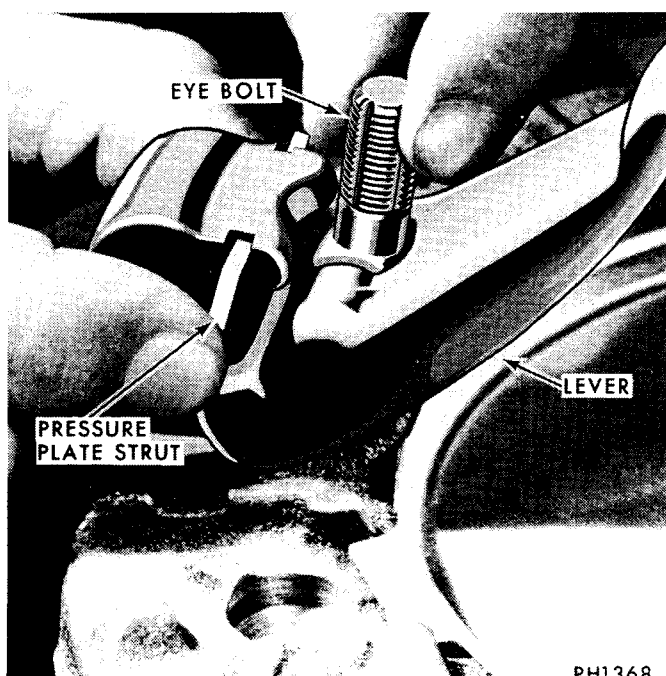

Fig. 3—Pressure Plate
(1) Install plain thrust washer and compression nut over center screw and compress springs with cover.
(2) Remove clutch release lever eyebolt nuts on strap drive type cover and pressure plate assemblies.
(3) Remove cap screws that hold driving straps to pressure plate, then release pressure to prevent springs from flying out. When tension is relieved, lift off cover.
(4) To remove release levers, grasp lever and eyebolt between thumb and finger so that flat side of lever and upper end of eyebolt are as close together as possible (Fig. 3).
(5) Be sure to keep eyebolt pin seated in lever socket. Strut can then be lifted over ridge on end of lever, making it possible to lift lever and eyebolt off pressure plate.
(6) Place the 14 inch single plate clutch in press to release pressure. Remove lock nuts. On 13 inch clutches, it may be necessary to hold clutch cover to fixture with 8 cap screws.